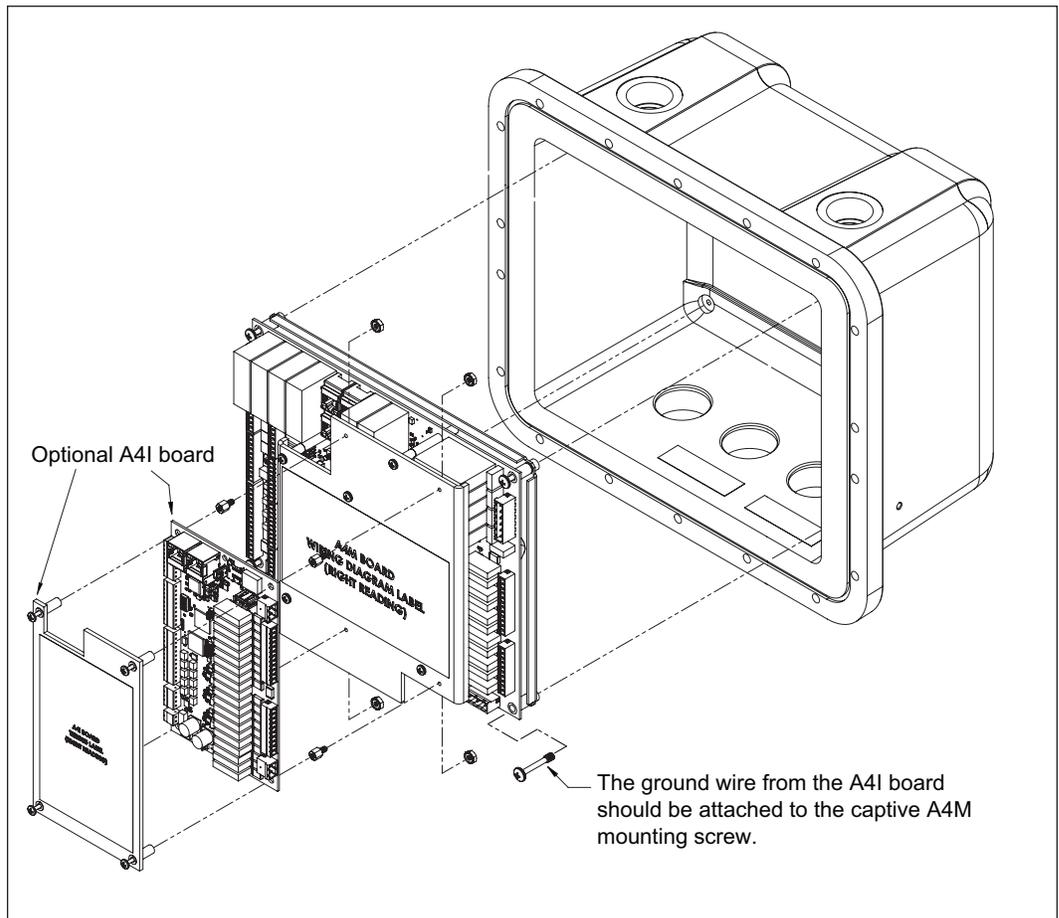
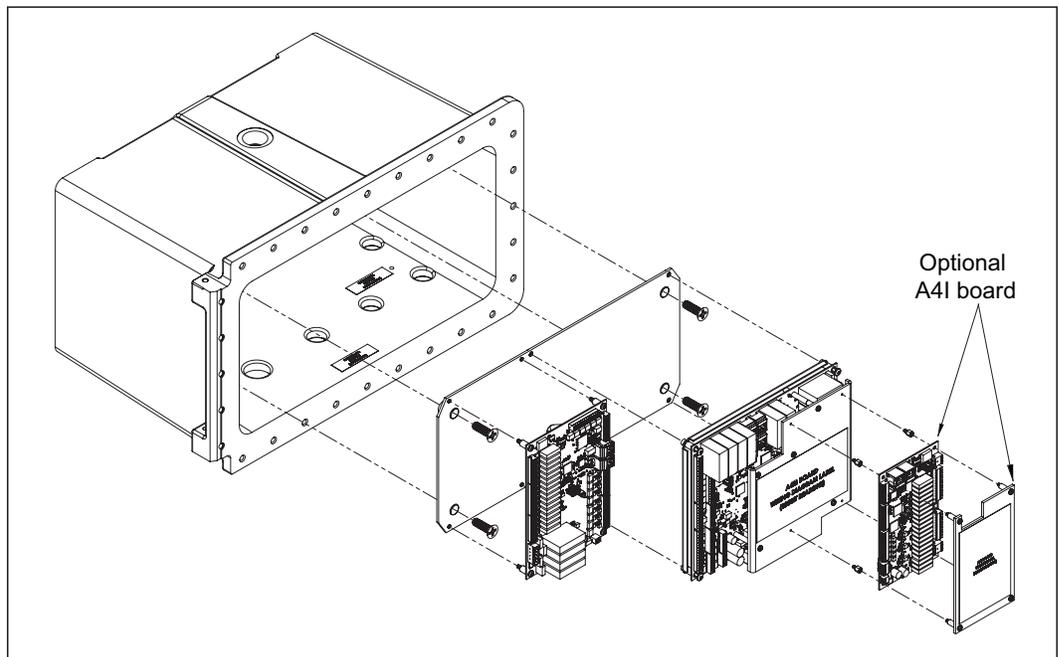

Figure 1 – ALIV-ST board placement
Figure 2 – ALIV-QT board placement
5. Using Figure 1 (ALIII-S) or Figure 2 (ALIII-Q) as a guide, remove the circuit board assemblies from the back housing. The EAAI board is standard for all ALIII models and, therefore, it is always installed. The BSE is standard on the ALIII-Q and the AICB board(s) is optional. (It may or may not be installed in either the -S or -Q model.)
2. Replace the EAAI board with the new A4M board assembly. Insert the field wiring connectors into the A4M board into the same locations that were used on the EAAI board. The connectors on the EAAI that were labelled TB1 through TB7 are now labelled TBE1 through TBE7 on the A4M board. These are located in the same position on the A4M as they were on the EAAI board. Connect Meter Pulse Inputs 1 through 6 to TP1; reference Appendix (D) for Meter Pulse configuration details. See Figures 1 and 2. May require program parameter changes - reference MN06201.
3. Insert the field wiring plugs that were connected to the KDC board assembly identified as TB1 through TB5 into the A4M board assembly in positions TBK1 through TBK5 respectively. If an Ethernet cable from the local network was plugged into the KDC, insert it into the RJ-45 connector labeled as ETH4 on the A4M board. See Figure (E).